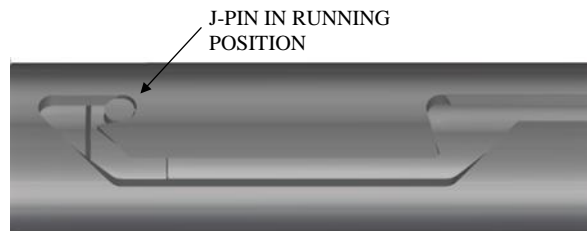

Fig. 7
L-2.20) Position J-pin of J-pin bottom sub (23) in running position in J-slot of J-body (20) (Fig. 7).